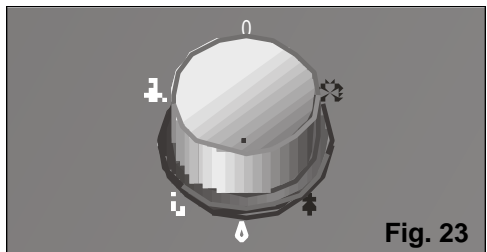

Fig. 23
- Select the dehumidification function, $\hat{\wedge}$ on the control knob, Fig. 23.